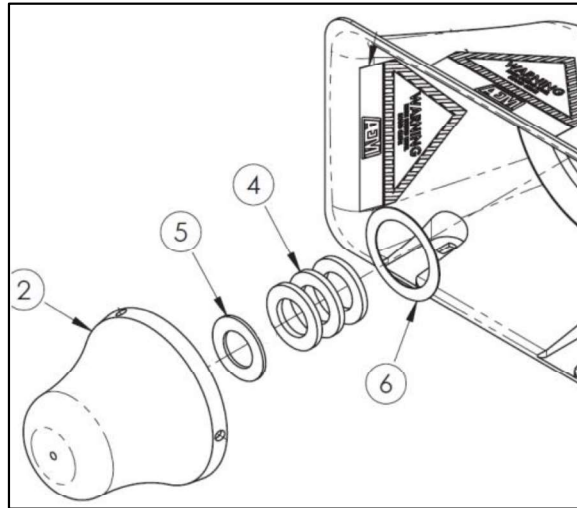

Figure 1
- 2.1.1 Referencing Figure 1, remove cone (Item #2) by unscrewing it from the speaker assembly. Ensure fiber washer (Item #5) remains in the cone. Remove rubber washers (Item #4) from the cone and the large fiber fiber washer (Item #6), retain for re-assembly.